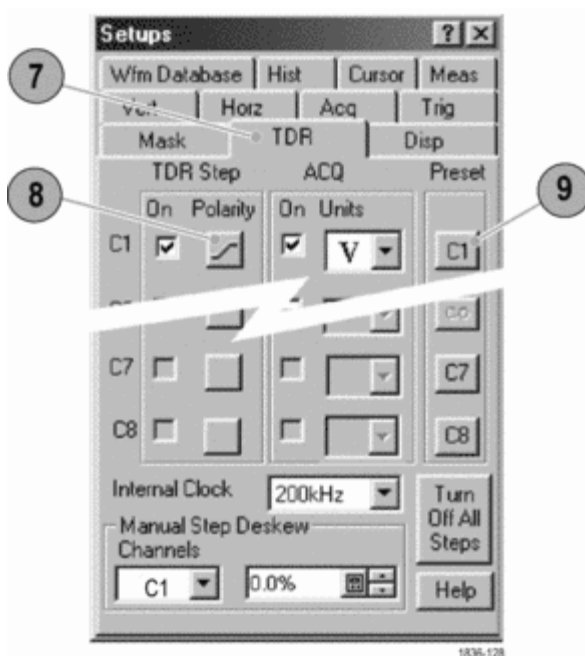

Figure 12: TDR parameter setup
7. Set the Channel 1 sampling head to TDR mode: press the **SETUP DIALOGS** button and select the TDR tab. (See Figure 12 on page 19.)